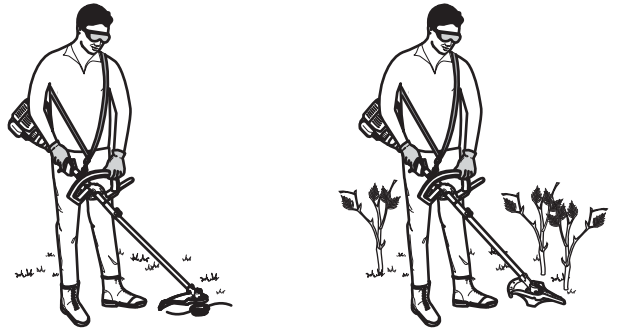

Fig. 21
- Stand in the operating position (Fig. 21). Stand up straight. Do not bend over.